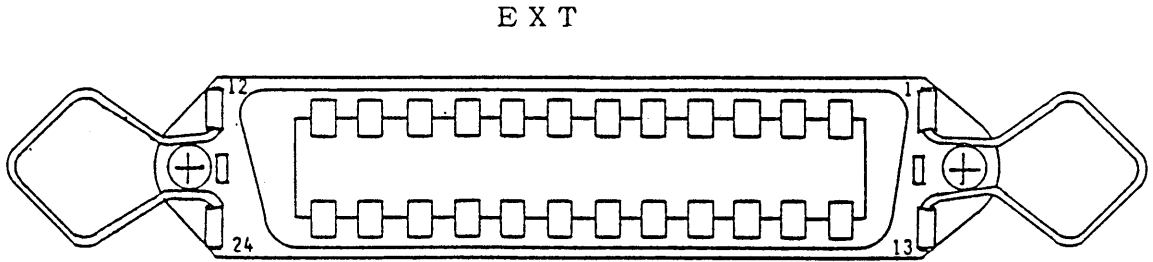

Figure 4-8
The pin layout of ⑫ EXT connector on the rear panel of PS01-COM is shown in Figure 4-8.